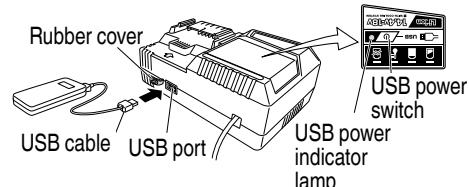

Fig. 8
- Turn the USB power switch ON (Fig. 8)
(3) Connect the USB cable. (Fig. 8)
- Turn the USB power switch OFF and unplug the power cord from the electrical outlet. (Fig. 8)
Make sure that the push button is disengaged by pushing push button two or three times before turning on the grinder. (Fig. 8)